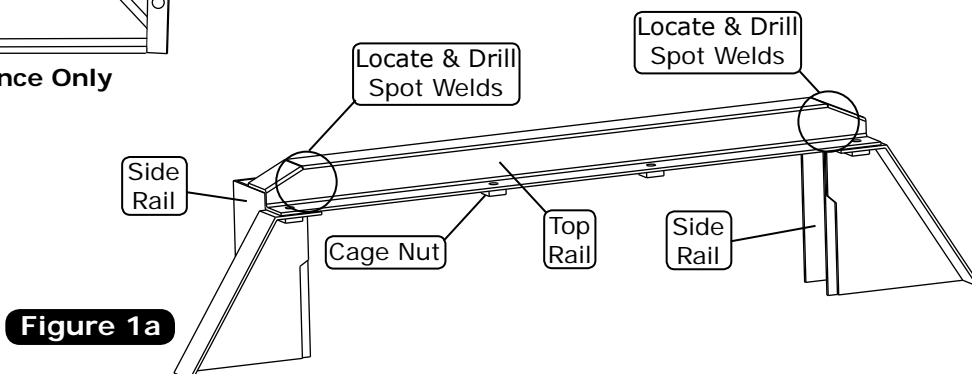

Figure 1a
7. Remove the top rail of the core support, using a 5/16" drill bit to drill out the spot welds connecting the top rail to the side rails (retain) (See Figure 1a, below).